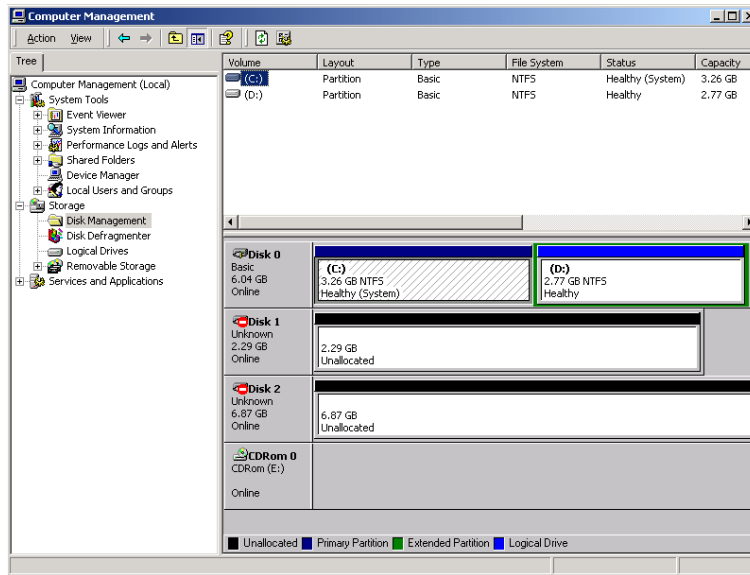

Figure 3.1 Disk Management Panel showing New Devices
To write the signatures on the new disk devices (see Figure 3.1):
5. After you write or decline to write a signature on each new device, the Disk Management main panel displays the devices by disk number (see Figure 3.1). The total capacity and free space are displayed for each disk device with a signature. **Configuration information not available** or an "Unknown" status indicates no signature. Do not exit the Disk Manager yet. You will create partitions on the new SCSI disk devices next.